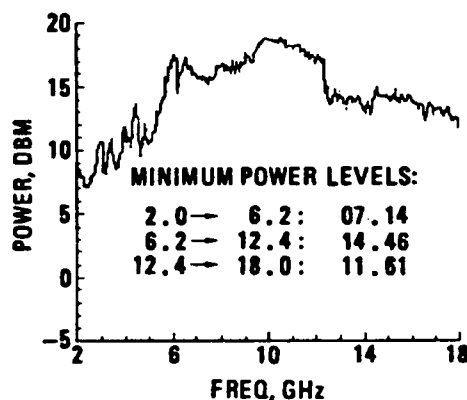

Figure 8-22. Band 1 Squegging
**Squegging.** Squegging is an unstable YTM output caused by too much power being applied to the YIG sphere. Squegging causes erratic power changes in the output level and spurious sidebands on the carrier. See figure 8-22 for an example of squegging. This